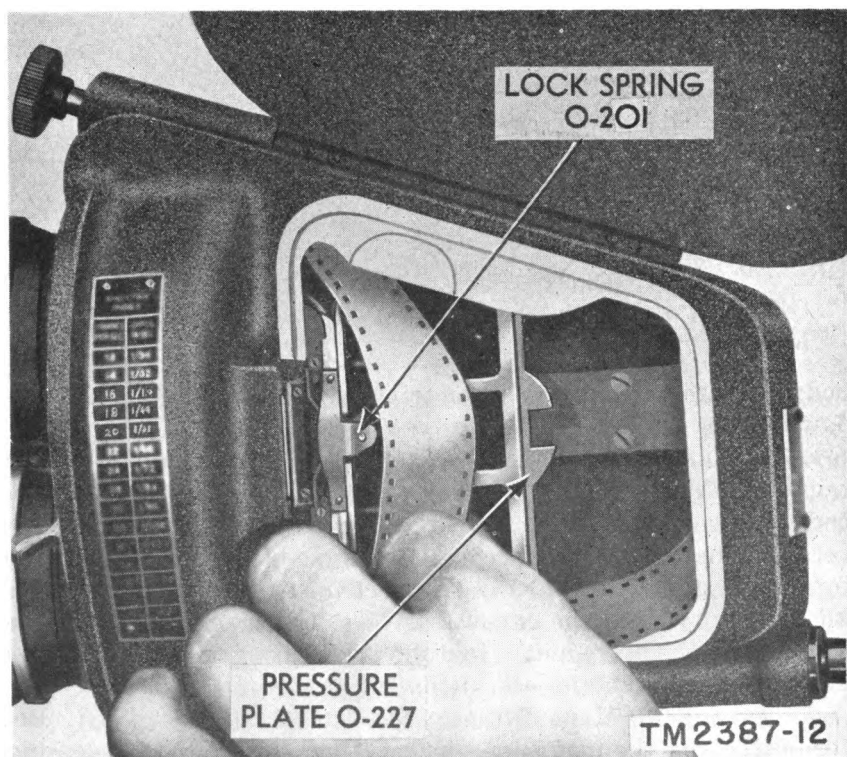

Figure 12. Threading film.
d. ATTACHING MAGAZINE AND THREADING FILM (fig. 12). Before attaching the magazine, open the camera door by releasing the lock knob spring and rotating the lock knob (fig. 3). Remove